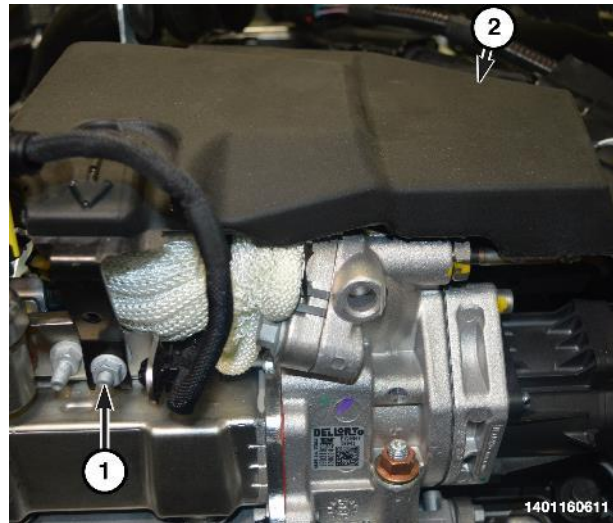

Figure 30 – Right Fuel Rail Cover
21. Remove the nut (1) and the right fuel rail cover (2) (Figure 30).
62. Install the right fuel rail cover (2) and securely tighten the nut (1) (Figure 30).